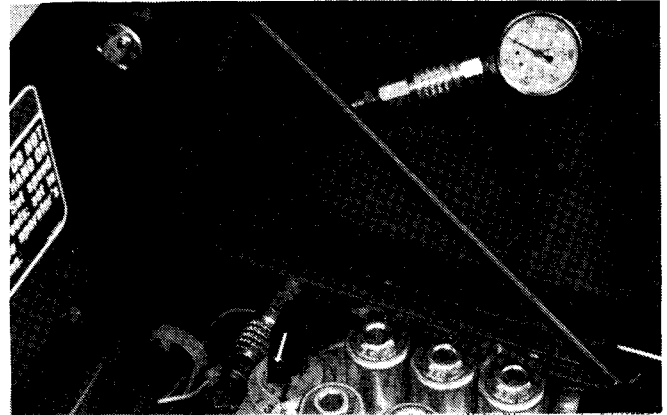

Figure 20a
5. Install a 5000 PSI gauge with extension hose onto quick disconnect fitting in port G2. Put gauge and hose through opening in front of hydraulic valve block as shown, then lower the seat (Fig. 20a).